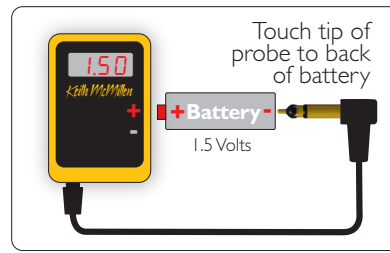

Figure 4
- 2a. If you are testing a AA or AAA battery, place the positive terminal of the battery to be tested against the positive side of the external battery contact on the Batt-O-Meter. Touch the tip of the probe to the negative terminal of the battery. (Figure 4.)